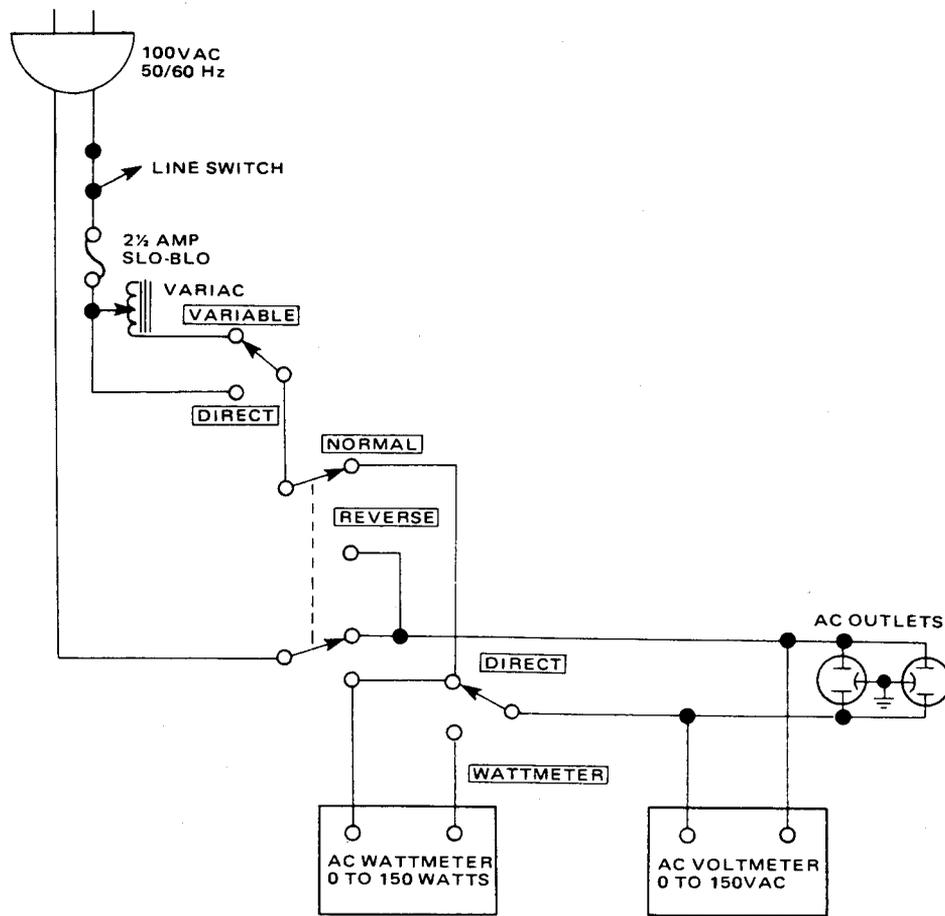
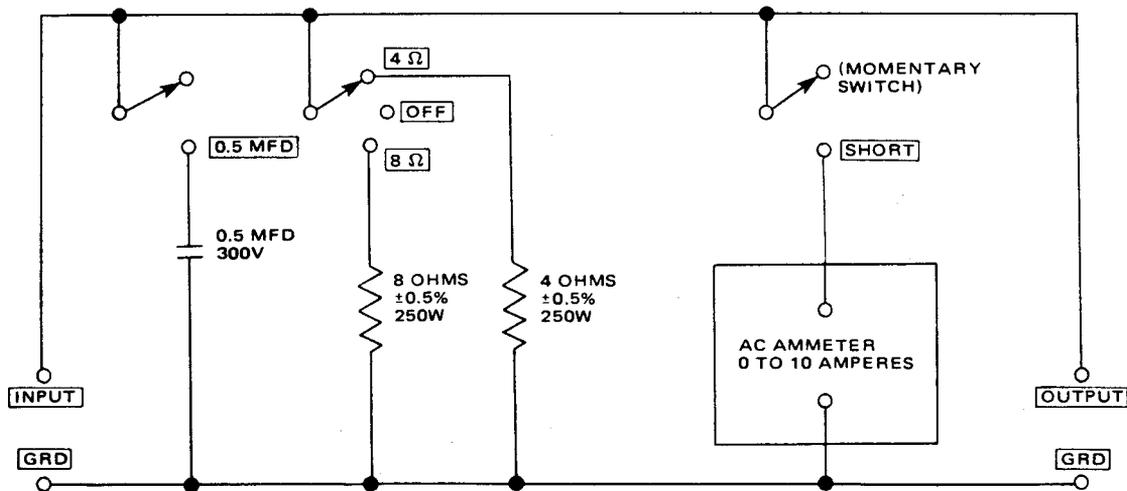

Figure1. AC Power Control Box Simplified Schematic
FIGURE 2. Amplifier Output Load Box Simplified Schematic
Table 1 lists the test equipment required for servicing the Model PM520DC Stereo Console Amplifier. The wattmeter, AC voltmeter, and variable autotransformer may be assembled as a test fixture as shown schematically in Figure 1. The load resistors and AC ammeter may be assembled into a second test fixture as shown in Figure 2.
1. Make the test setup shown in Figure 1 with the instrument controls set in the following positions:
| AC Power Control Box | Optional Item. Fabricate in accordance with Figure 1 | Monitors and controls primary power for amplifier |
| Amplifier Output Load Box | Optional Item. Fabricate in accordance with Figure 2 | Provides various amplifier loads and can monitor shorted output |